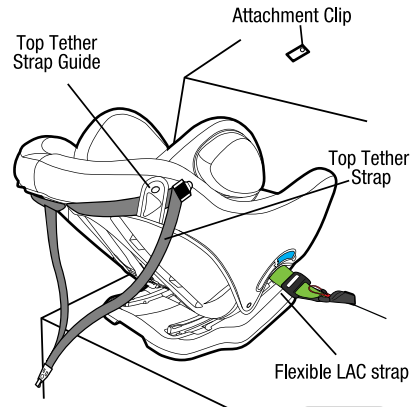

Figure 5
**Step 5:** Locate the adjuster at the side of the restraint and secure using the top tether strap guide (refer Figure 5 & 6).